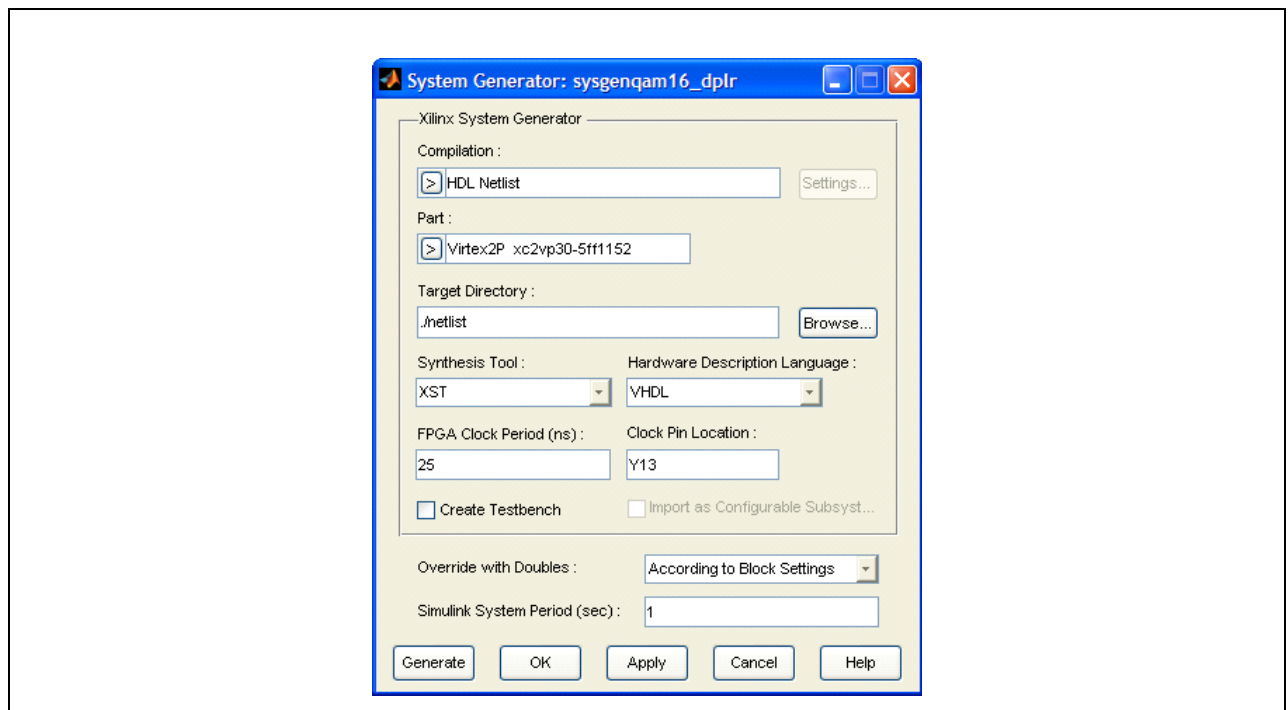

Figure 141: System Generator Parameters for Chiptest Example
- Check that the System Generator parameters match the ones shown in **Figure 141** on page 214 and press Generate.